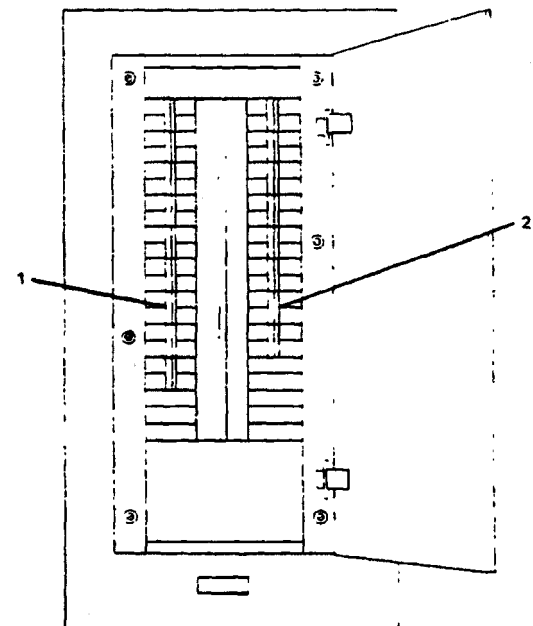

Figure 2-363. Engine Room Distribution Panel No. 4.
- (c) Engine room distribution panel no. 4 (Figure 2-363). Set ENGINE ROOM DRINKING FOUNTAIN circuit breaker (1) to ON position.